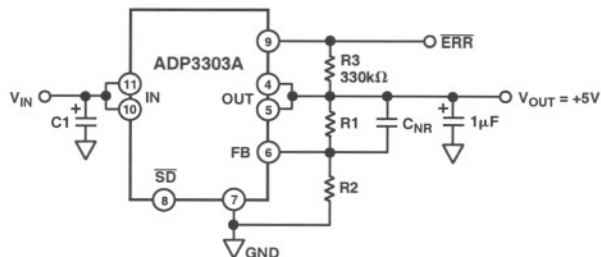

Figure 21. Noise Reduction Circuit
Noise Reduction Capacitor (CNR): to reduce the ADP3303A's low output noise by 6 dB–10 dB, a noise gain limiting capacitor can be connected between the feedback (FB) pin (Pin 6) and the OUT pins as shown in Figure 21. Low leakage capacitors in the 100 pF–500 pF range provide the best performance. Larger capacitors will slow down the output transient response. CNR is not needed in low noise applications where fast load transients are not expected.
The proprietary thermal coastline TSSOP-14 package of the ADP3303A, in conjunction with the recommended PCB layout shown in Figure 21, yields a thermal resistance of 96°C/W. As a result, the die temperature rise for the example circuit is: